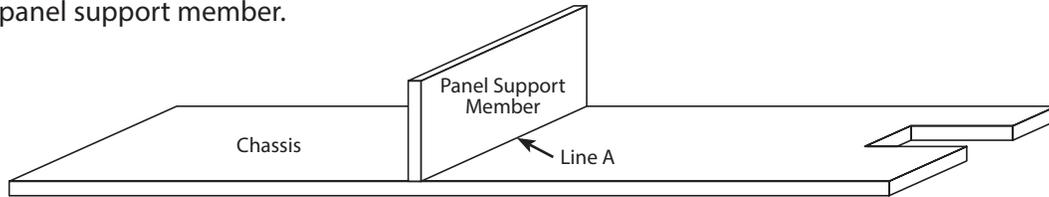

Figure 3
- Using a cool-melt glue gun, run a small bead of glue along one of the 4" edges of the panel support member and attach it firmly at Line A (Figure 3). After it is in place, run an additional bead of glue on each side of the joint between the chassis and the support member.